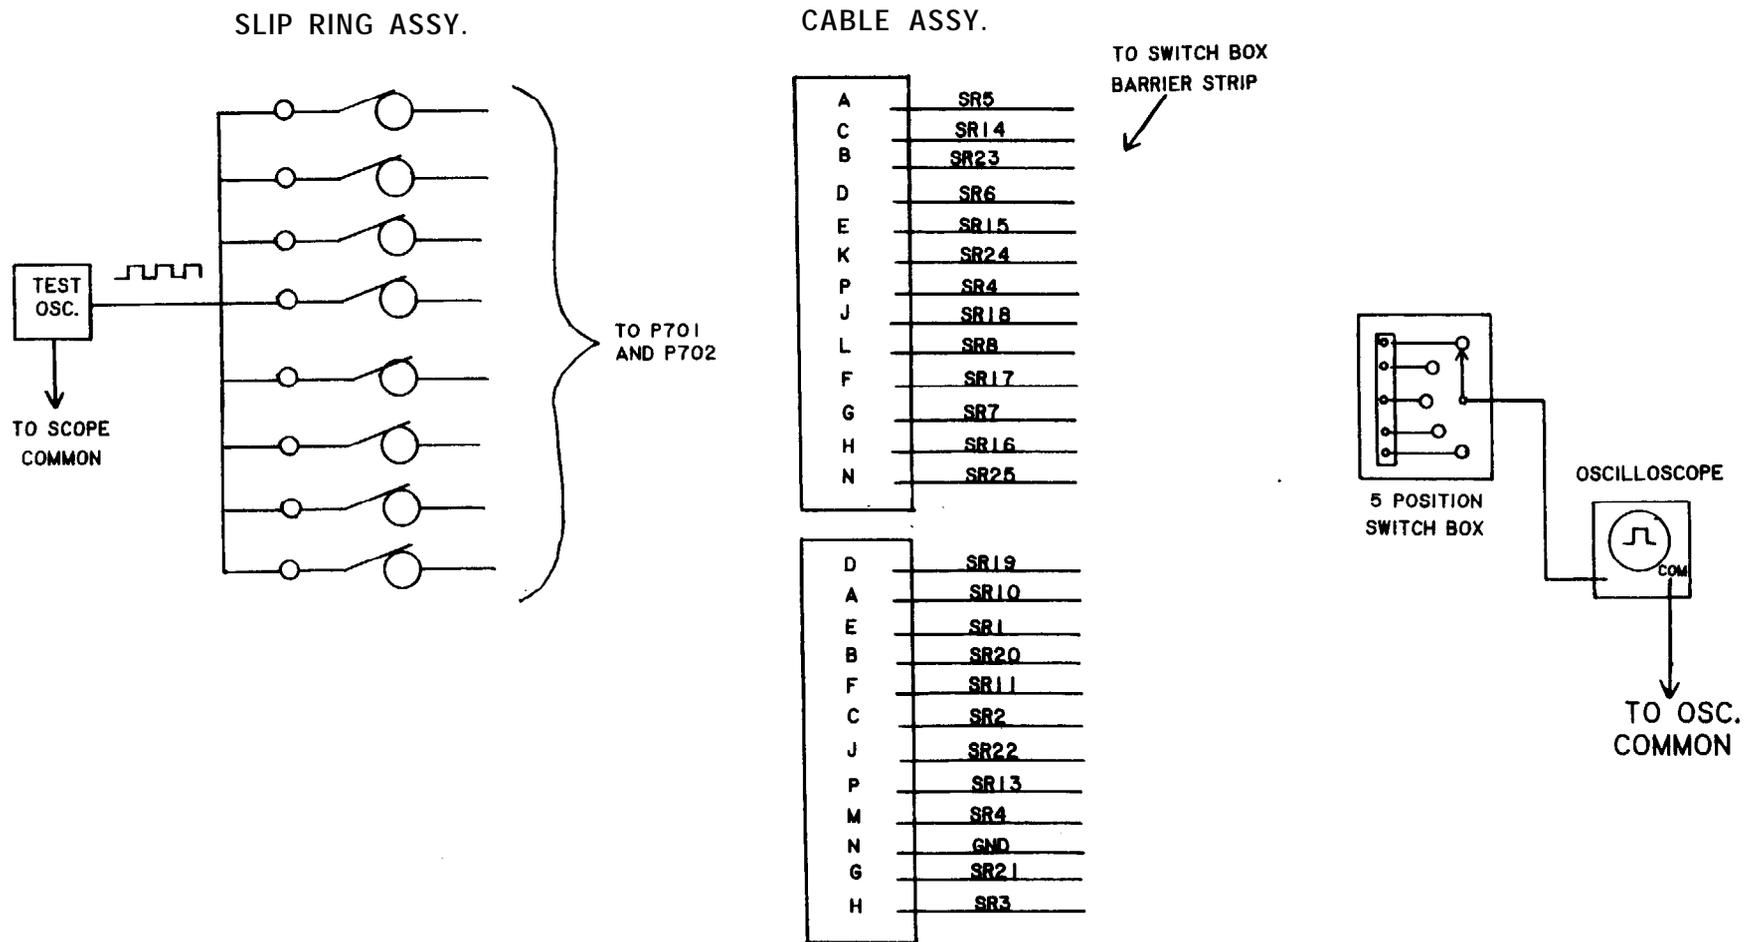

FIGURE 1
2. Figure 1 depicts the overall cable assembly for the slip ring test.
6. To check slip rings, connect the first five leads on the cable assembly to the barrier strip on the Slip Ring Selector, in sequence, as shown in Figure 1.